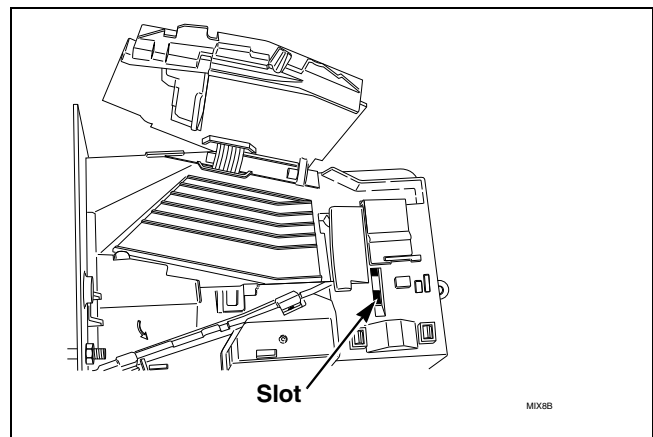

Figure 8
- (10) Attach clip to new tension spring, Part No. 209/00598/02.
(11) Place clip, installed on spring, in slot on coin drop. Refer to *Figure 8*.